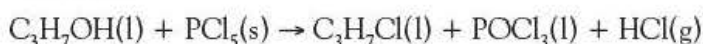

Figure 15.4 ◀
- 7 Name the product of the reaction shown in Figure 15.4.